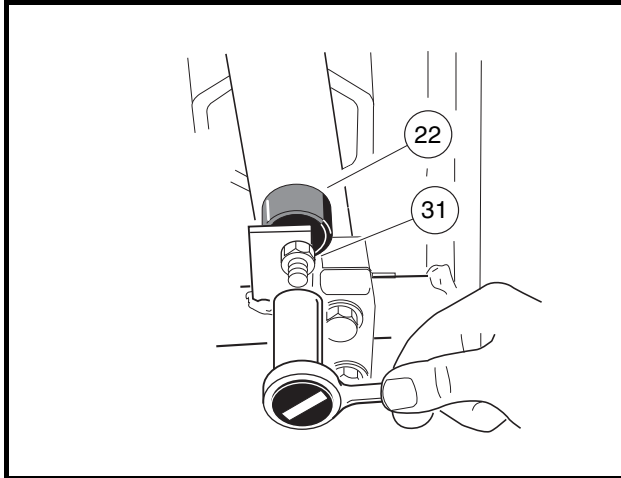
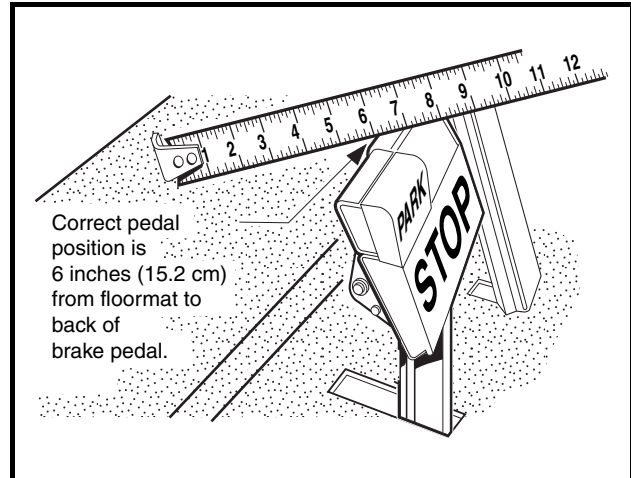

Figure 5-22 Brake Pedal Height Adjustment
Figure 5-23 Brake Pedal Height Measurement
- 2.4. Loosen the brake stop jam nut (31), then relieve pedal pressure on the stop by pushing down slightly on the pedal. Next, adjust the brake stop bumper (22) up or down (**Figure 5-22, Page 5-17**). Adjusting the bumper upward decreases distance between pedal and floorboard. Adjusting the bumper downward increases distance between pedal and floorboard. Proper brake pedal height is 6 inches (15.2 cm) (**Figure 5-23, Page 5-17**).
- 2.5. Tighten the jam nut (31) to 8 ft-lb (9.5 N·m) (**Figure 5-22, Page 5-17**).